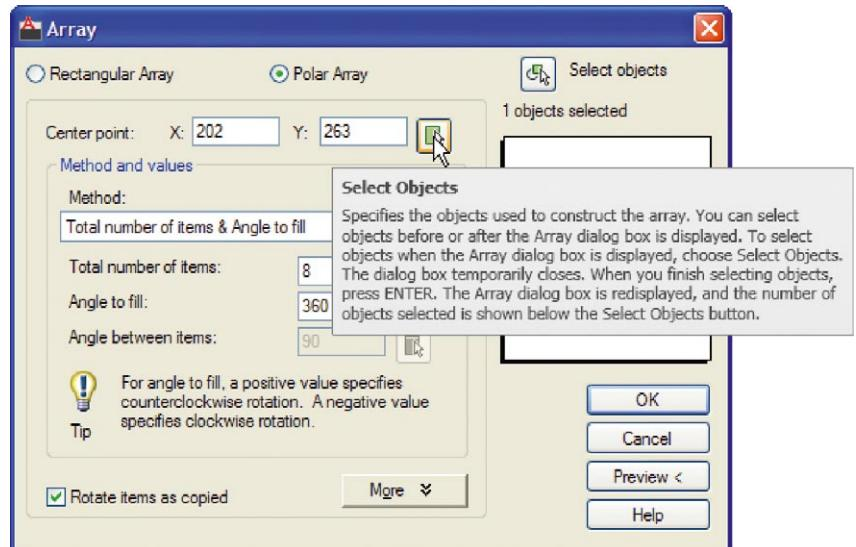

Fig. 5.21 Second example – **Array** – the **Pick Center point** button
3. Click the **Select objects** button of the dialog and window the drawing. The dialog returns to screen. Click the **Pick Center point** button (Fig. 5.21) and when the dialog disappears, *pick* a centre point for the array.